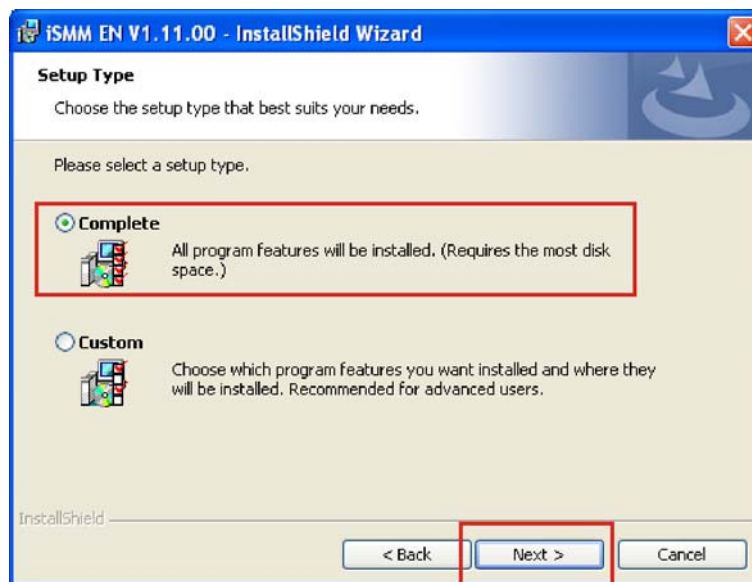

Figure 6-34: iSMM Setup Type
Step 15: The **Setup Type** screen appears. (Figure 6-34)
Step 16: Select “**Complete**” (Figure 6-34)
Step 17: Click **NEXT** to continue. (Figure 6-34)